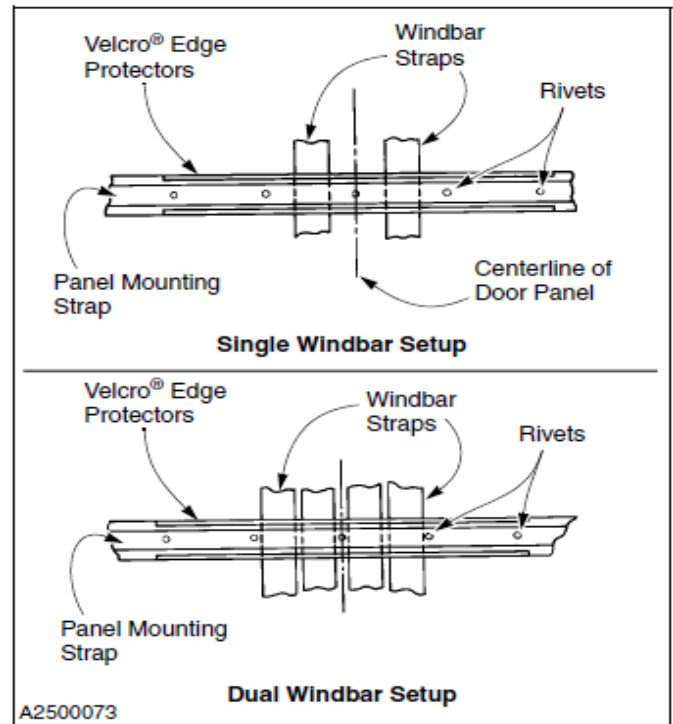

Figure 65
3. Remove the rivets securing the panel mounting strap to the fabric drum — only remove the rivets from within the area of the mounting strap that is directly over, and adjacent to, the windbar straps. (See Figure 65)